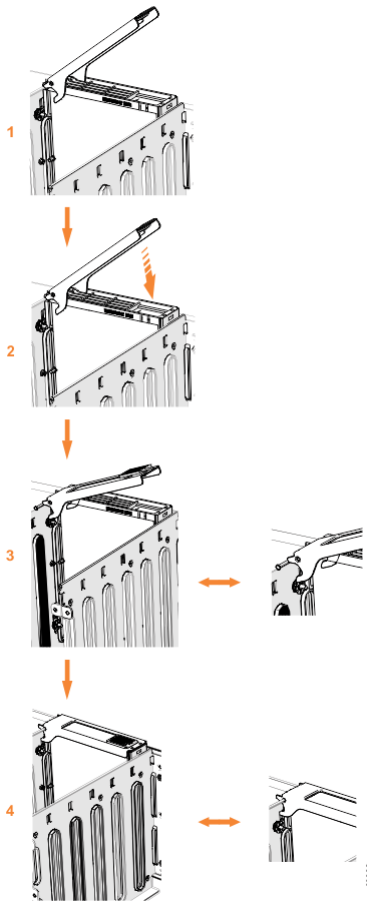

Figure 107. Replace the drive
14. Ensure that the drive handle (1 in Figure 107 on page 165) of the drive assembly is in the open (unlocked) position.
16. Lower the drive down, without pushing, until it stops and the bottom of the latch is aligned with the top of the partition. Ensure that the handle is not open more than 45 degrees from the drive carrier. (2 in Figure 107 on page 165). If the drive does not slide down easily then inform IBM remote technical support.
17. Rotate the handle down to lock the drive assembly into the chassis (3 in Figure 107 on page 165).
19. Ensure that the top toe of the latch is also fully engaged (4 in Figure 107 on page 165).